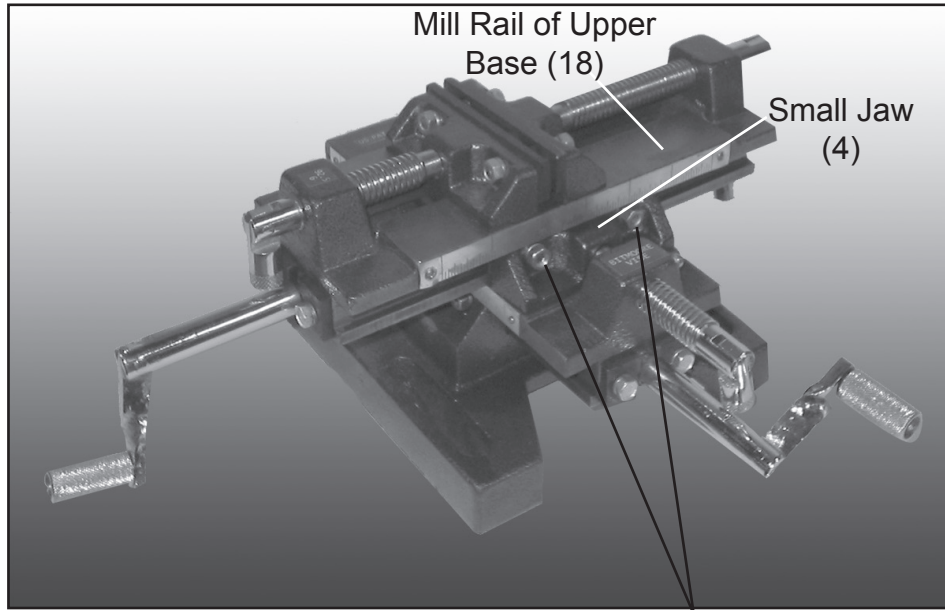

Figure 5 Hex Screws
3. Vertical slack (slop) adjustment is done by loosening the Hex Screws. The Small Jaw (4) will slide down and ride against the mill rail of the Upper Base (18). Retighten Screws. **See Figure 5.**